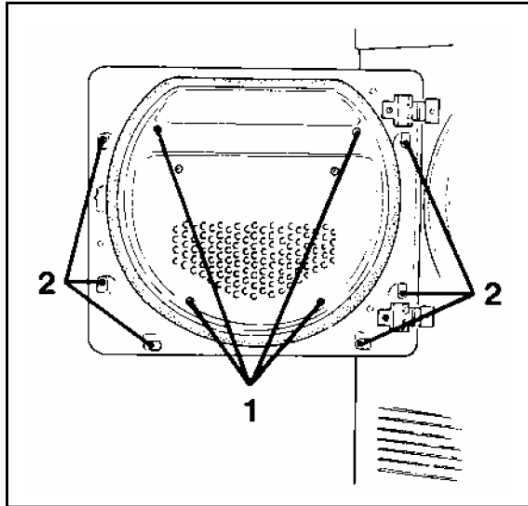

Figure 5-28: Door Seal Replacement
1. Remove the filter unit by unscrewing the 4 screws (refer to Figure 5-28 – Door Seal Replacement, Item 1).
1. Turn the 6 tensioning levers (refer to Figure 5-28 – Door Seal Replacement, Item 2) a quarter turn.